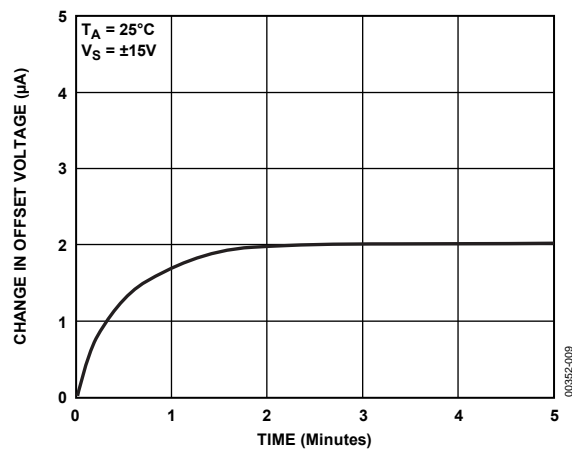

Figure 8. Warm-Up Offset Voltage Drift
- The device has to be warmed up for at least five minutes. As shown in the warm-up drift curve (see Figure 8), the offset voltage typically changes 2 μ V due to increasing chip temperature after power-up. In the 10 sec measurement interval, these temperature-induced effects can exceed tens of nanovolts.